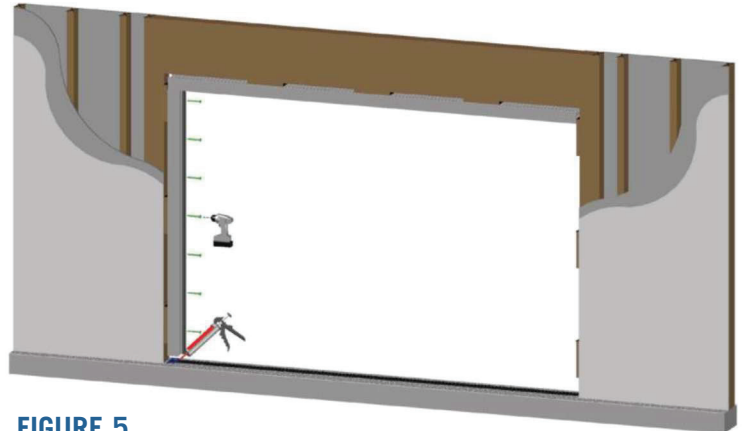

FIGURE 5
1. Set the side frame into the construction sealant at the end of the bottom and top tracks. (Fig.5)